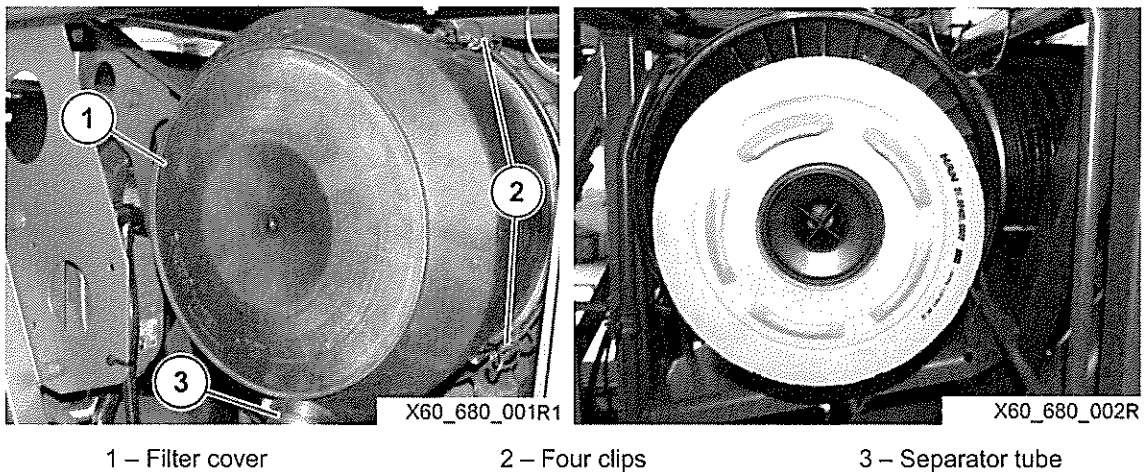

Fig 32 Replacing the air filter element
80.2 Refer to Fig 32. Release the four clips (2) on the filter housing, then remove the filter cover (1).